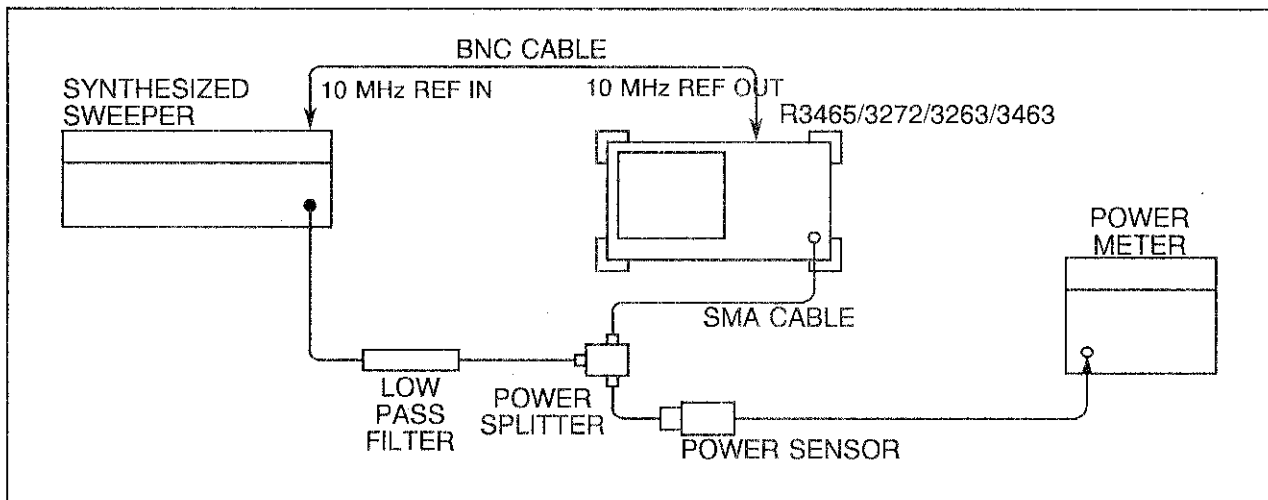

Figure 1-10 Second Harmonic Distortion Test Setup
(1) Zero and calibrate the power meter. Rotate the CAL FACTOR switch to the power sensor's 1.4 GHz calibration factor.
(2) Connect the equipment as shown in Figure 1-10.
(3) Press the INSTR PRESET key on the SG1. Set the SG1 controls as follows:
(13) Connect the equipment as shown in Figure 1-10.
(14) Rotate the CAL FACTOR switch to the power sensor's 1.9 GHz calibration factor.
(15) Set the SG1 POWER LEVEL key for a 0 dBm \pm 0.1 dB reading on the power meter.
(16) On the R3465/3272, press FREQ, 1, ., 9 and GHz keys.